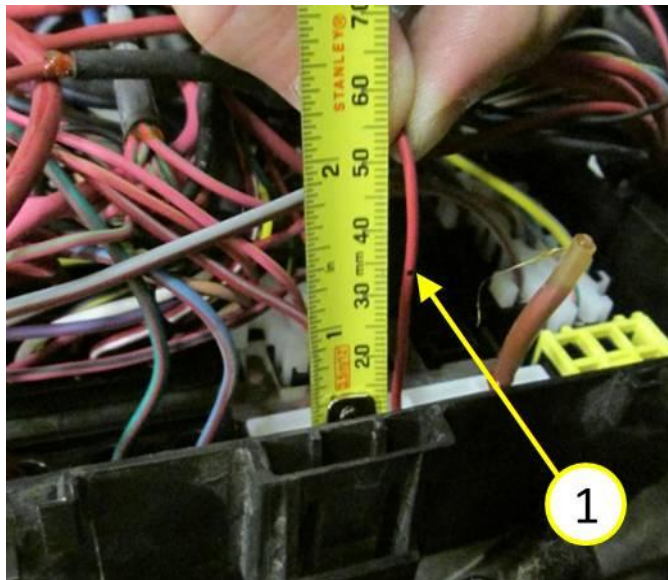

Fig. 5 Cut Wire From Cavity 12
12. Locate the RD/LB wire located in cavity 12. Place a mark on the wire approximately 35mm (1.375 In.) up from the terminal, see (Fig. 5).